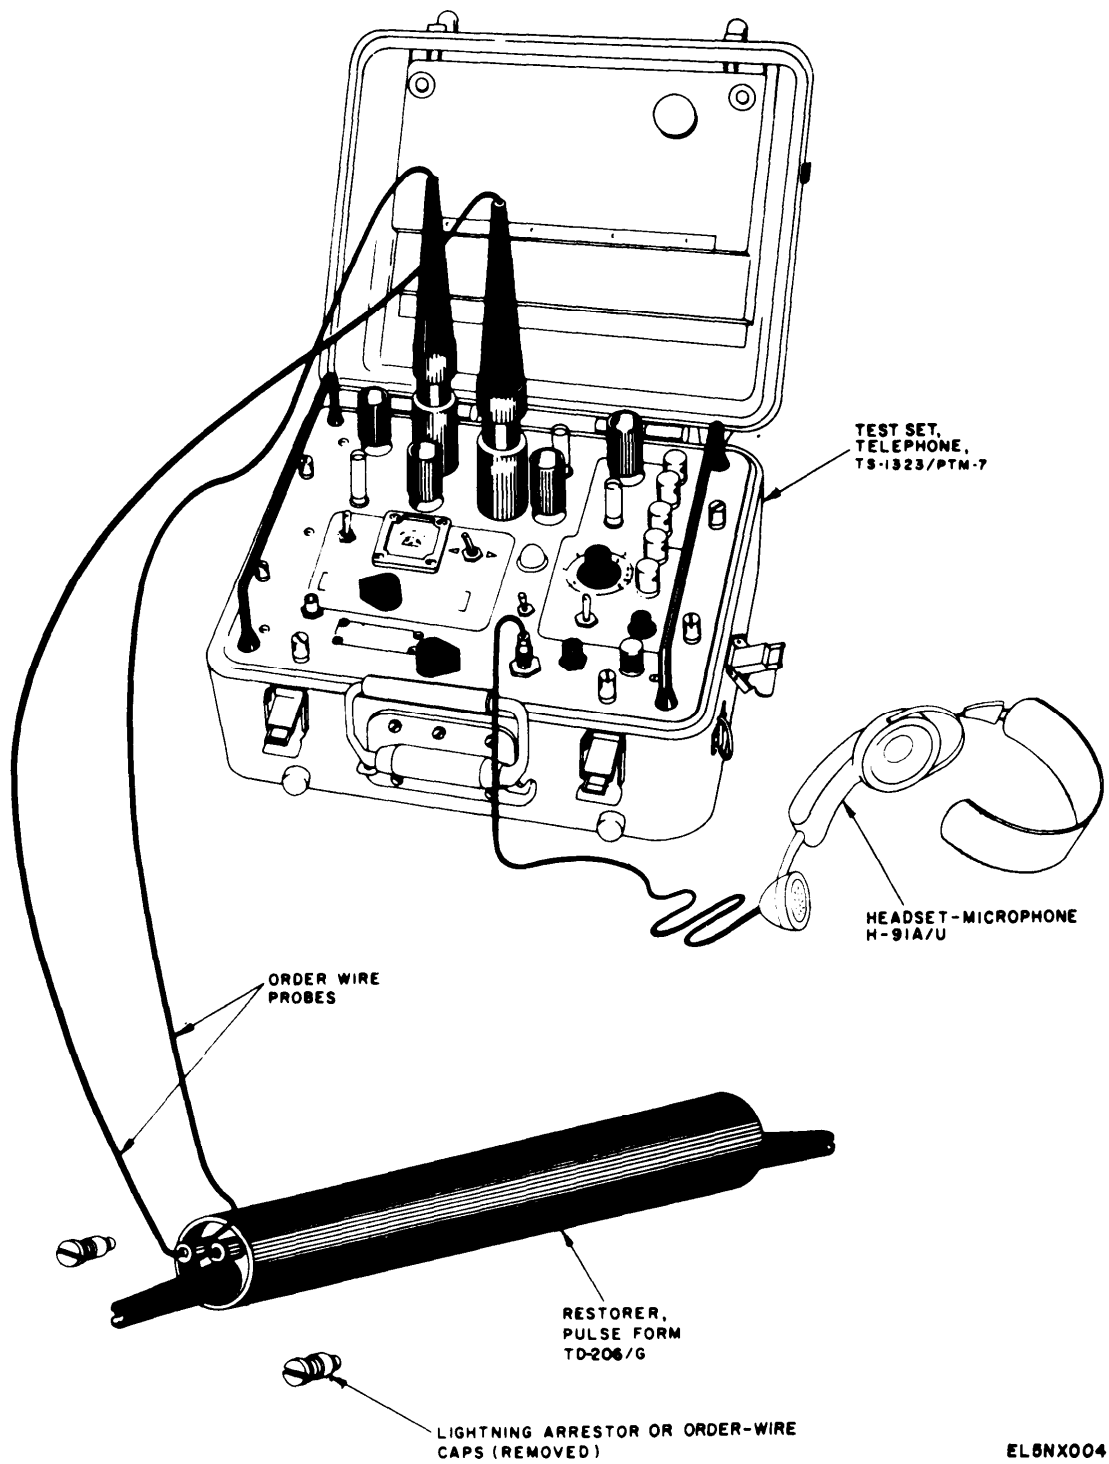

Figure 3-5. Use of order-wire probes on Restorer, Pulse Form TD-206/G.
(figs. 3-5, 3-6, 3-7, and 3-8)
(1) To connect the TS-1323/PTM-7 without opening the link, connect the order-wire probes to the TD-206/G as shown in figure 3-5.